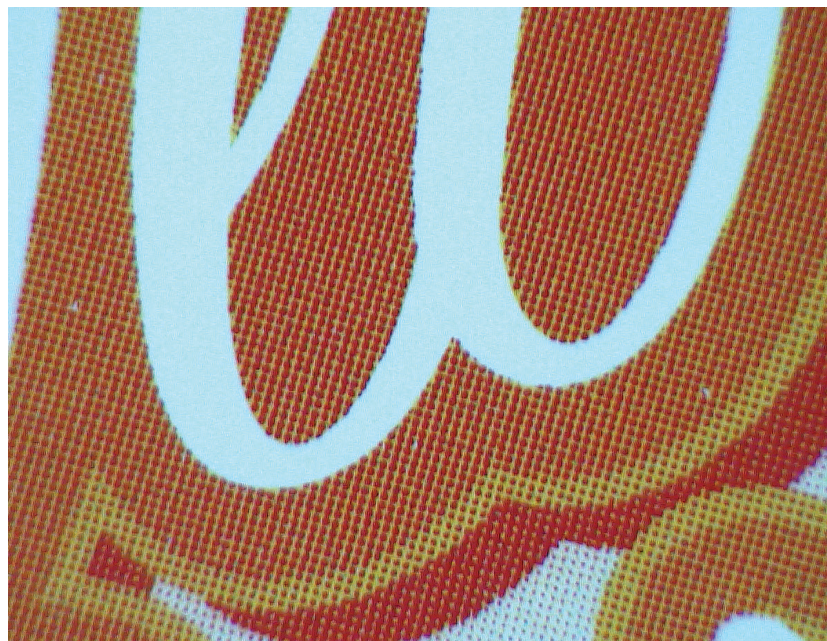

Figure 2: Micro inspection shows the alignment (registration) of the different colors to get the best image possible.
- Figure 2 shows the alignment (registration) of the different colors to get the best image possible.